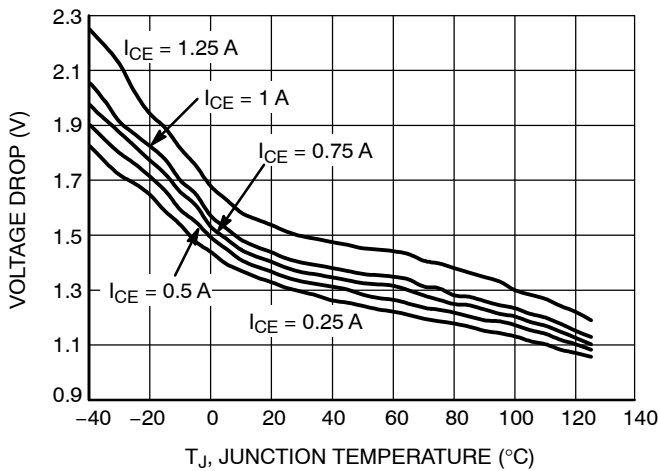

Figure 7. Voltage Drop in Emitter Follower Configuration
9. V_{SWCE} – Darlington Switch Collector to Emitter Voltage Drop, refer to Figures 7 and 8.